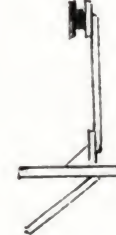

Fig 17
Now a jig will be needed to ensure that the upper deadeyes are turned in at the correct height above the lower ones. This can be two short pieces of stiff wire with the ends turned over at the same distance apart as the ends of the two outer ropes on the original kit deadeye pressings, which have been cut off. The jigs are placed with their lower pins through the outer holes of the lower deadeye, and the outer holes of the upper deadeye are placed over the upper pins of the jigs. The whole assembly is then moved to line up with the relevant shroud which is turned in as described earlier. Fig 17 shows the completed job with the jigs (A).